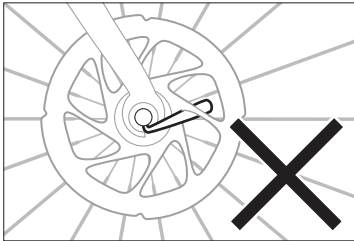

Figure 1.7: An incorrectly positioned quick release lever can interfere with the brake system.
- If your wheel is equipped with a quick-release, make sure the lever is properly closed and positioned: does not touch the fork or an accessory part (rack, fender, bags, etc.), and does not interfere with the spokes or disc brake system as the wheel rotates (Figure 1.7).